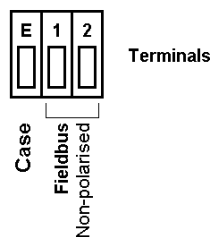

Fig 3 Installation and terminal connections
- c. Connect the panel wiring to the rear terminal block as shown in Fig 3. To simplify installation, the terminals are removable so that panel wiring can be completed before the instrument is installed.